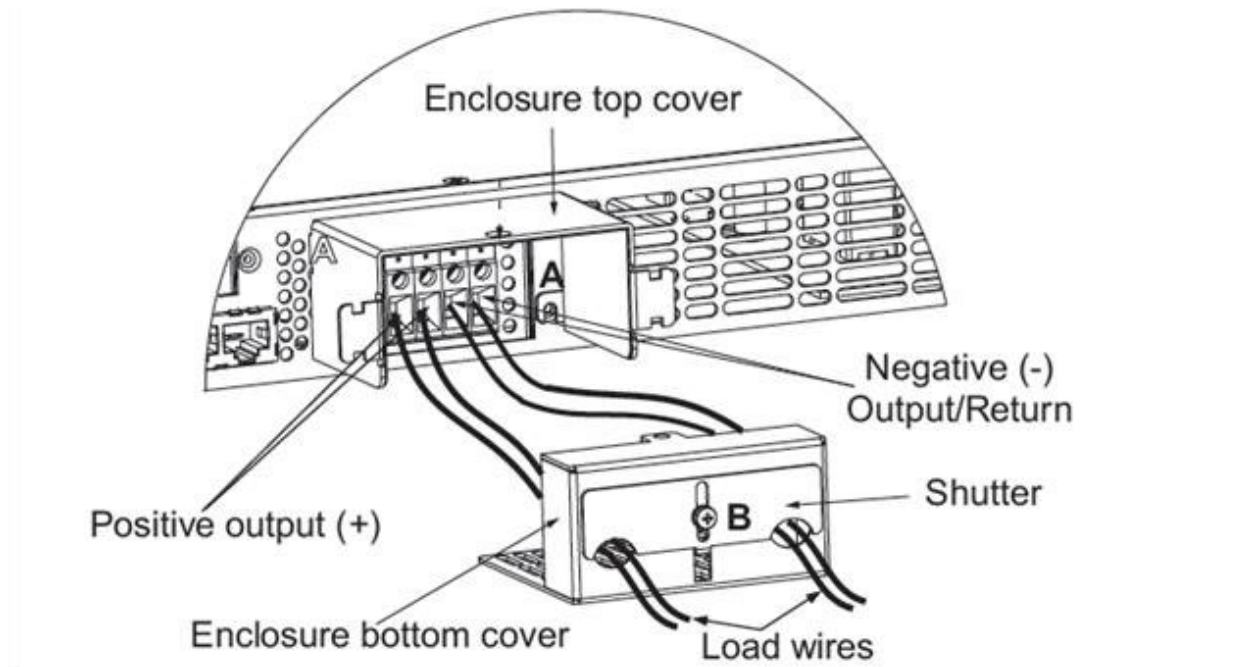

Figure 3-8 Load Wires Connection to the Output Connector
(Refer to Fig.3-8, 3-9 for installation instructions.)
4. Insert stripped wires into the enclosure bottom cover opening and then to the terminals. Then tighten the terminals screws securely (see Figure 3-8).